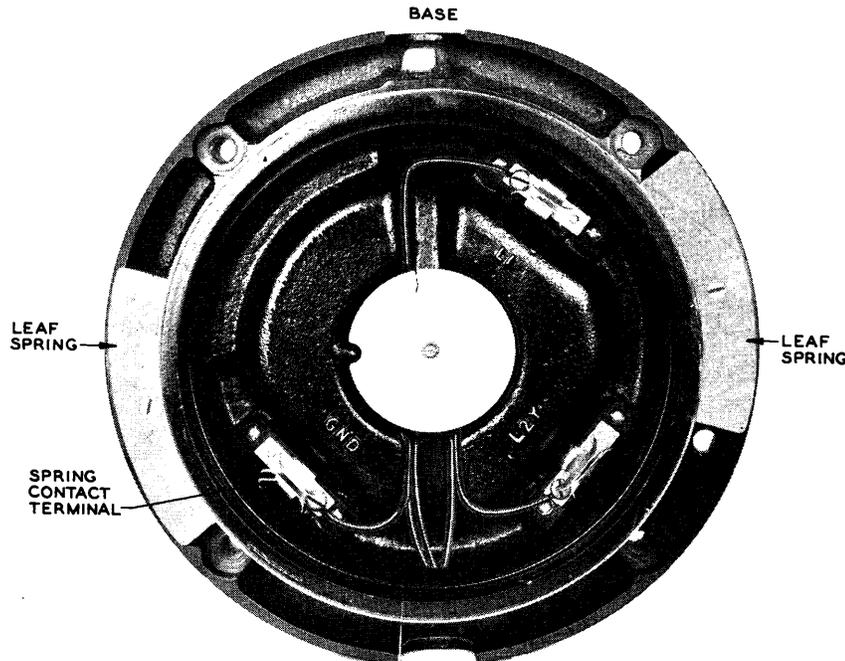

Fig. 4 — Local Wiring in Base
2.02 The base provides an externally threaded projection to engage corresponding threads in the housing. It also provides spring-type contact terminals for line and ground conductors (see Fig. 4).
3.01 Connect local wiring to terminals in base of set (see Fig. 4). Check unused pipe plug to see that a minimum of five threads is engaged.